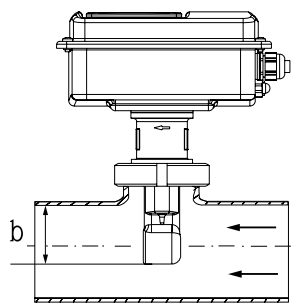

Figure 6: Consider the immersion depth
- Choose immersion depth b of the sensor in the medium such that the coil body is completely immersed (see Fig. 6). The pipe has to be completely filled with water. Gas bubbles will have an influence on the displayed value (avoid installation in down flowing pipes where flow can be affected by gravity).